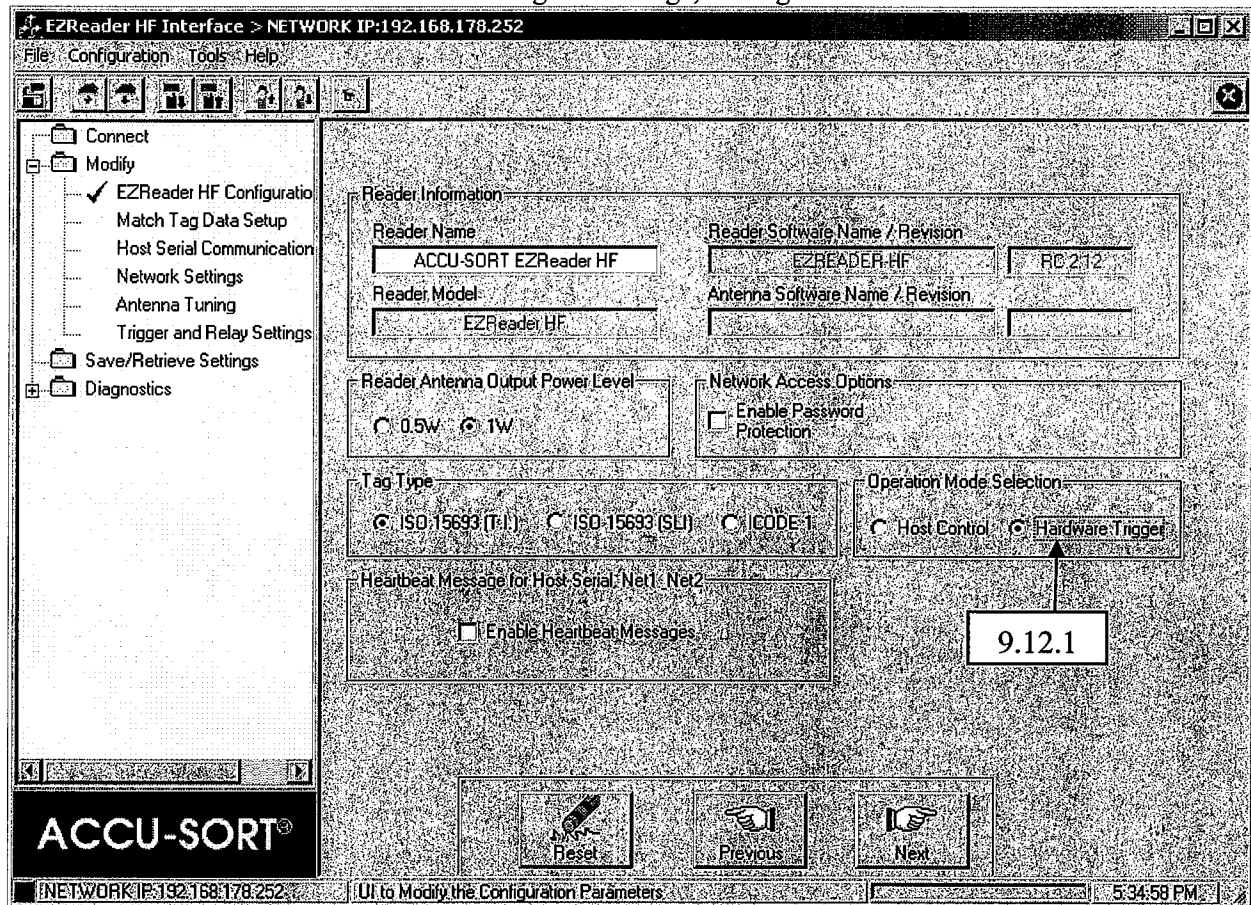

Figure 28
9.13.1 Using the GUI change the DUT's Operation Mode from Host Control to Hardware Trigger and SAVE the settings. This change is made under the EZReader HF Configuration Page, see Figure 28.